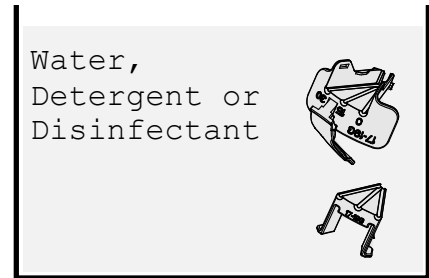

Fig.27 Immersion of the biopsy attachment EZU-PA7B1
- 2) Immerse the biopsy attachment into the diluted detergent for the recommended contact time of the detergent. (see figure 27).
- 2) Immerge the biopsy attachment into the disinfectant. (see figure 27). Set a clock to insure the recommended contact time is 5 minutes.